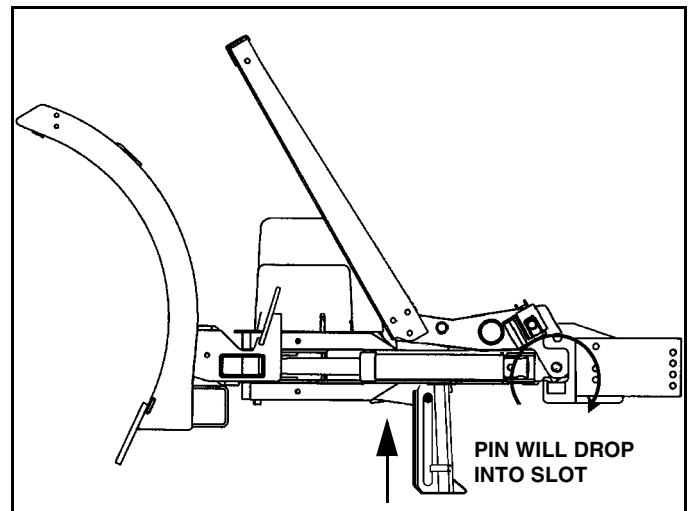

Figure 1-7
3. Rotate light/lift bar into position by turning on down pressure and pressing the lower button. (See Figure 1-7)